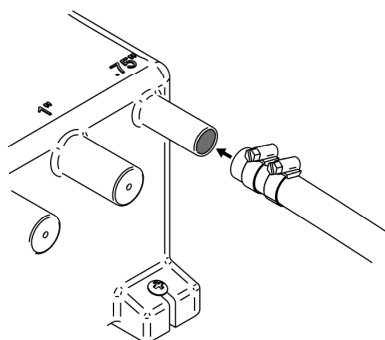

Figure 7 Securing Hose to Tank Port
| Fig. 7 | Securing Hose to Tank Port |
Step 3: Secure all hosing onto the selected ports using appropriate hose clamps, as shown in Figure 7. Check no leaks occur. Do not overtighten hose clamps.